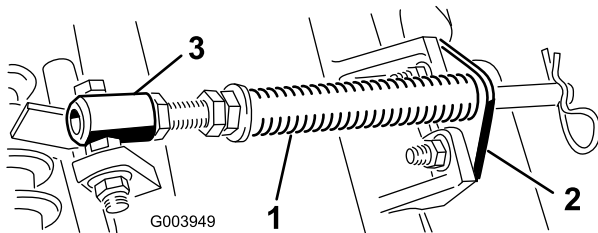

Figure 5
- A. Remove the 2 carriage bolts and nuts securing the rod bracket to the cutting unit tabs (Figure 5).
- B. Remove the flange nut securing the spring tube capscrew to the carrier frame tab (Figure 5)